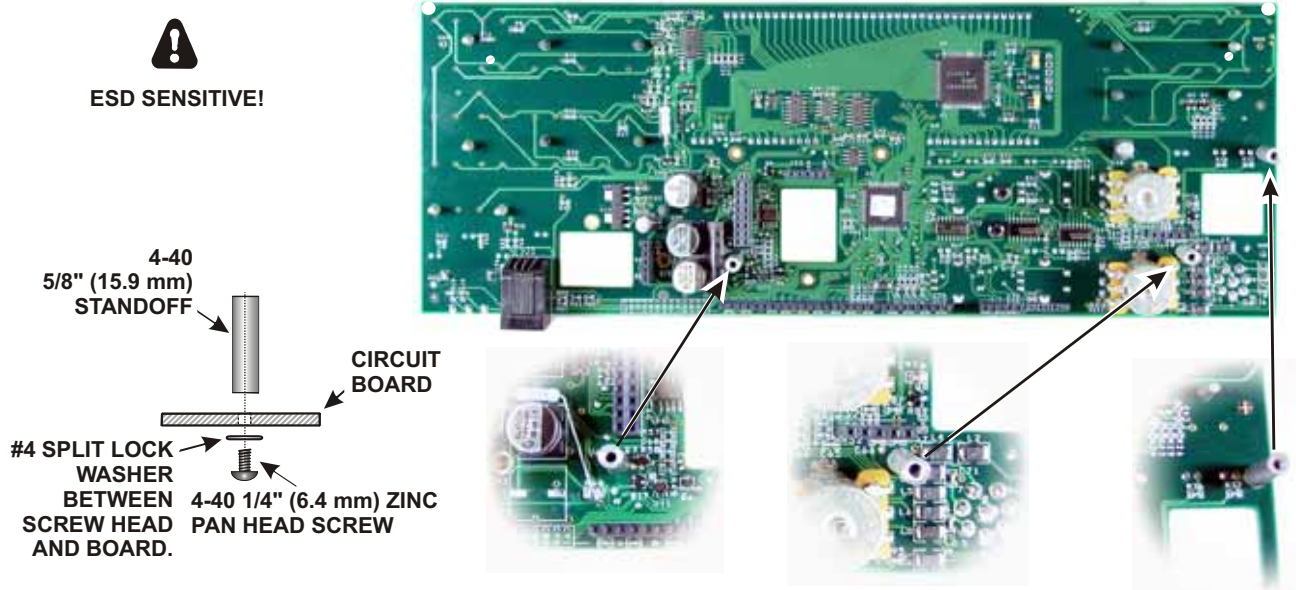

Figure 33. Preparing the Front Panel Board for Mounting, Part 1.
- Mount three standoffs on the back of the front panel board as shown in Figure 33 . Place the lock washer between the screw head and the board as shown.
- Three 4-40 5/8" (15.9 mm) standoffs are mounted on the back as shown in Figure 33.